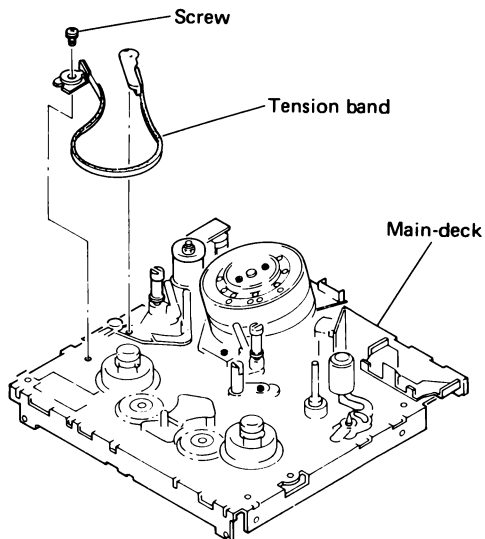

Fig. 2-15 Tension band replacement
2.3.10 Tension Band (See Figure 2-15.)